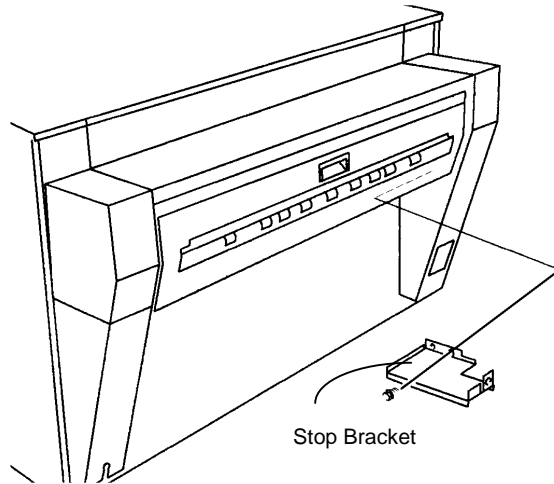

**Figure 2. PWB Installation**
4. (Figure 2): Install the Transmission PWB on the right bracket.
6. (Figure 2): Install the Receiving PWB on the left bracket.